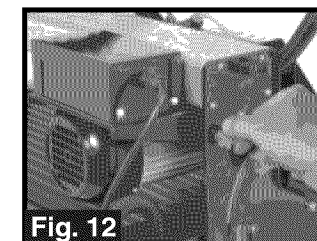

Fig. 12
10. The cutting unit is locked into place during shipment. Loosen the butterfly knob located on one end of the bridge (Fig. 12) before using tool. When not in use, keep cutting unit locked in place to prevent its rolling back and forth along bridge. There is also a second locking mechanism on the blade/cutting assembly that can also be used to lock the blade cutting assembly anywhere along the bridge of the saw (Fig. 13).